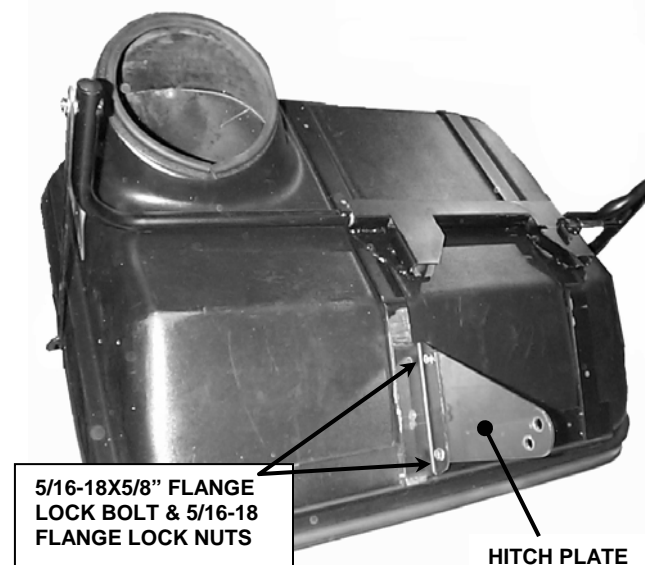

FIGURE 1.4
- A. Attach triangular shaped Hitch Plate to bottom of Front Cover Assembly. Orientation of the holes in the Hitch Plate is important, observe picture carefully before assembling. Align holes in Hitch Plate and Front Cover Frame. Insert (2) 5/16-18 x 5/8" Flange Lock hex bolts and secure with (2) 5/16-18 Flange Lock hex nuts. **Do not tighten at this time.** See Figure 1.4.